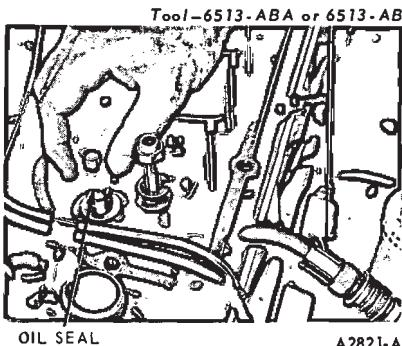

FIG. 16—Valve Stem Seal Removal or Installation
6. Install the stud nut and position the compressor tool as shown in Fig. 15. Compress the valve spring and remove the retainer locks, spring retainer and valve spring. Remove and discard the valve stem seal (Fig. 16).
1. Install a new valve stem seal (Fig. 16). Place the spring in position over the valve; be sure the closed coil end is next to the cylinder head. Install the valve spring retainer. Compress the valve spring and install the valve spring retainer locks. Remove the compressor tool and stud nut.